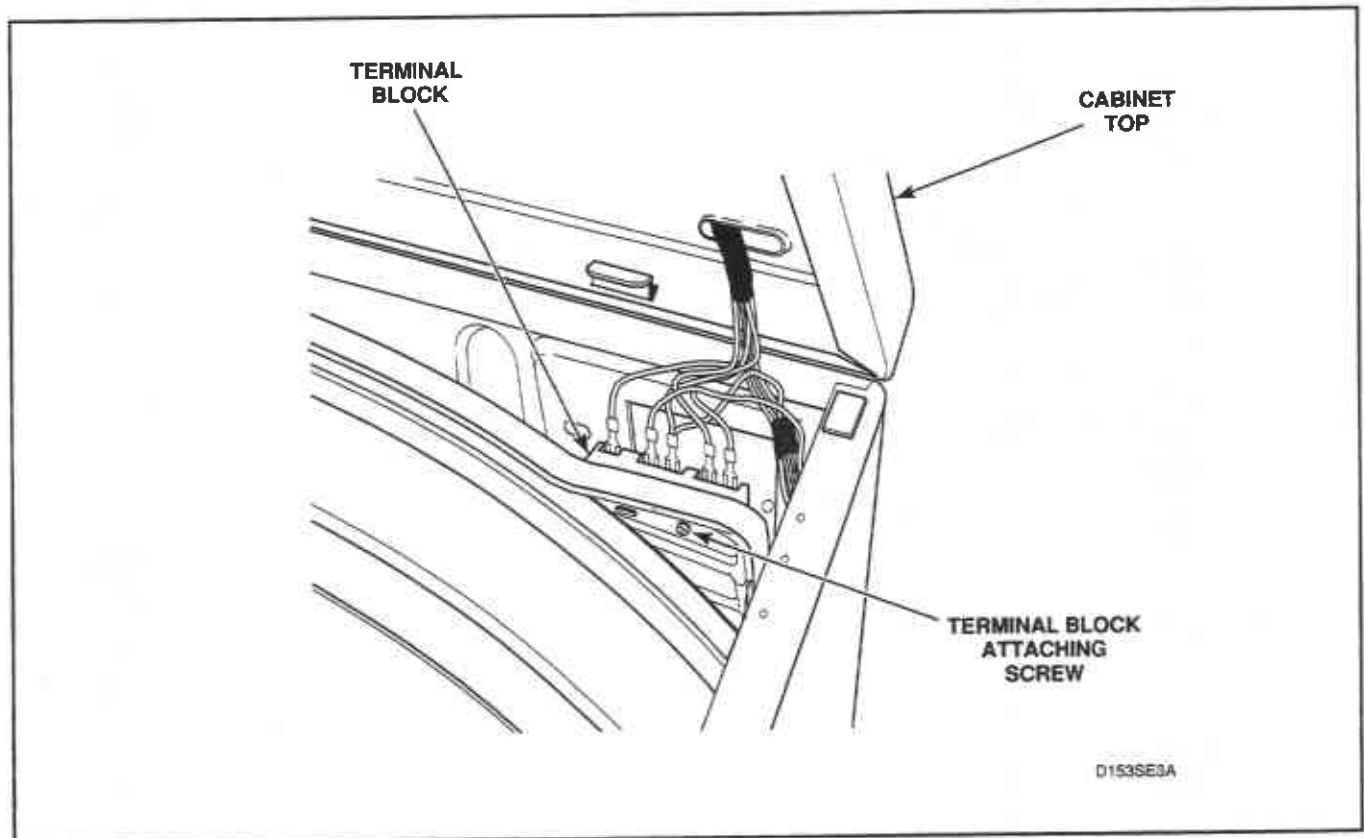

Figure 39
- (7) Remove all wires from terminal block. (Refer to appropriate wiring diagram when rewiring terminal block).
- (8) Remove screw holding terminal block to rear bulkhead, *Figure 39*.